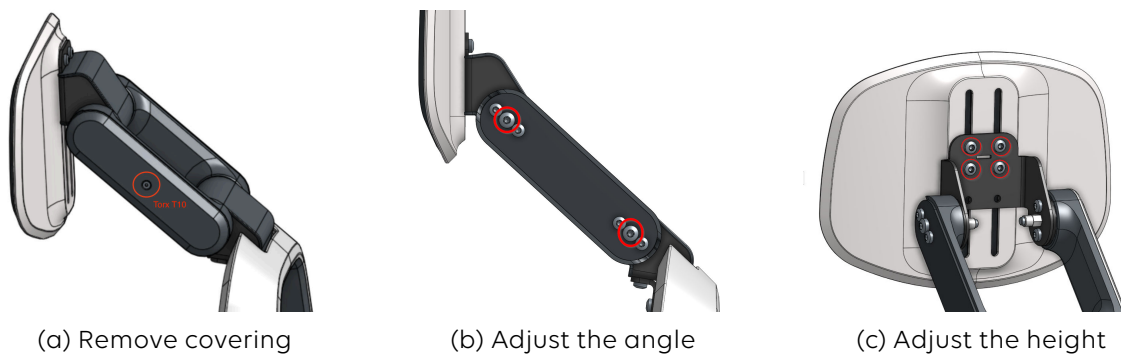

Figure 24. Screw Lock head support adjustment
2. Loosen all four screws on the locking discs (larger screw in the center) (on each side). (Figure 24, "Screw Lock head support adjustment" [31]). Do not remove the screws completely.
2. Loosen all four screws (Figure 24, "Screw Lock head support adjustment" [31]). Do not remove the screws completely.